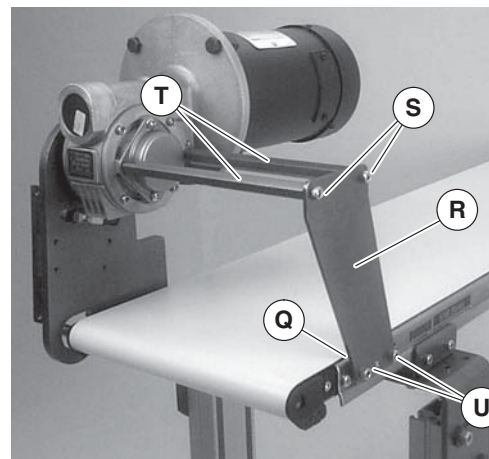

Figure 22
4. Remove screws (Figure 22, item S & U) and remove support plate (R) and spacer (Q). Remove hex posts (T).